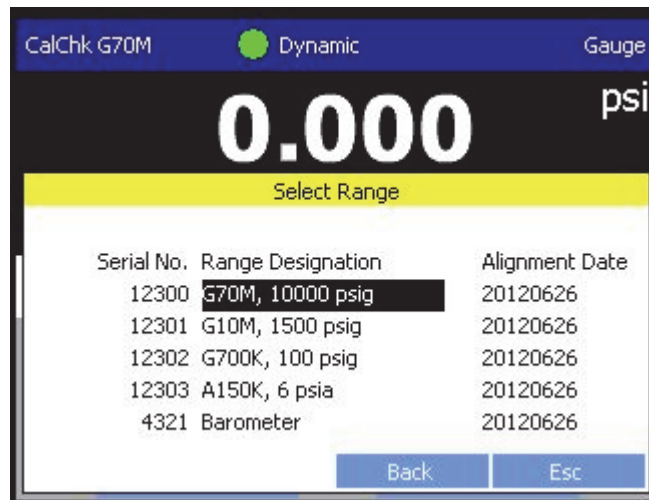

Figure 7-4. Module Selection
5. Select the desired module as shown in Figure 7-4.